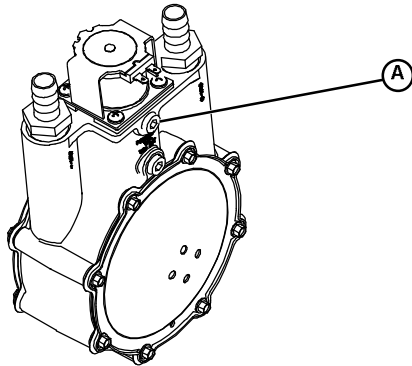
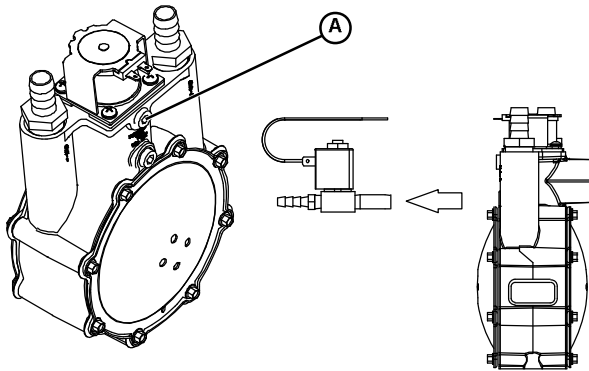
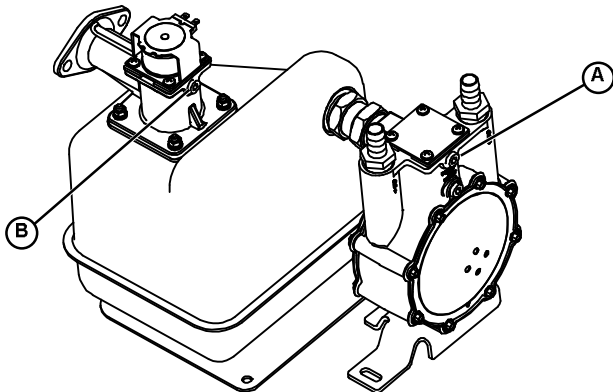

Figure 4-55. Gas Pressure Test points (8 kW)
Figure 4-56. Gas Pressure Test points (10 kW)
Figure 4-57. Gas Pressure Test points (12-20 kW)
1. See Figure 4-55, Figure 4-56, and Figure 4-57 for the gas pressure test point on the fuel regulator. The fuel pressure can be checked at Port 1 (A) on all fuel regulators, and at Port 3 (B) on 12-20 kW units.